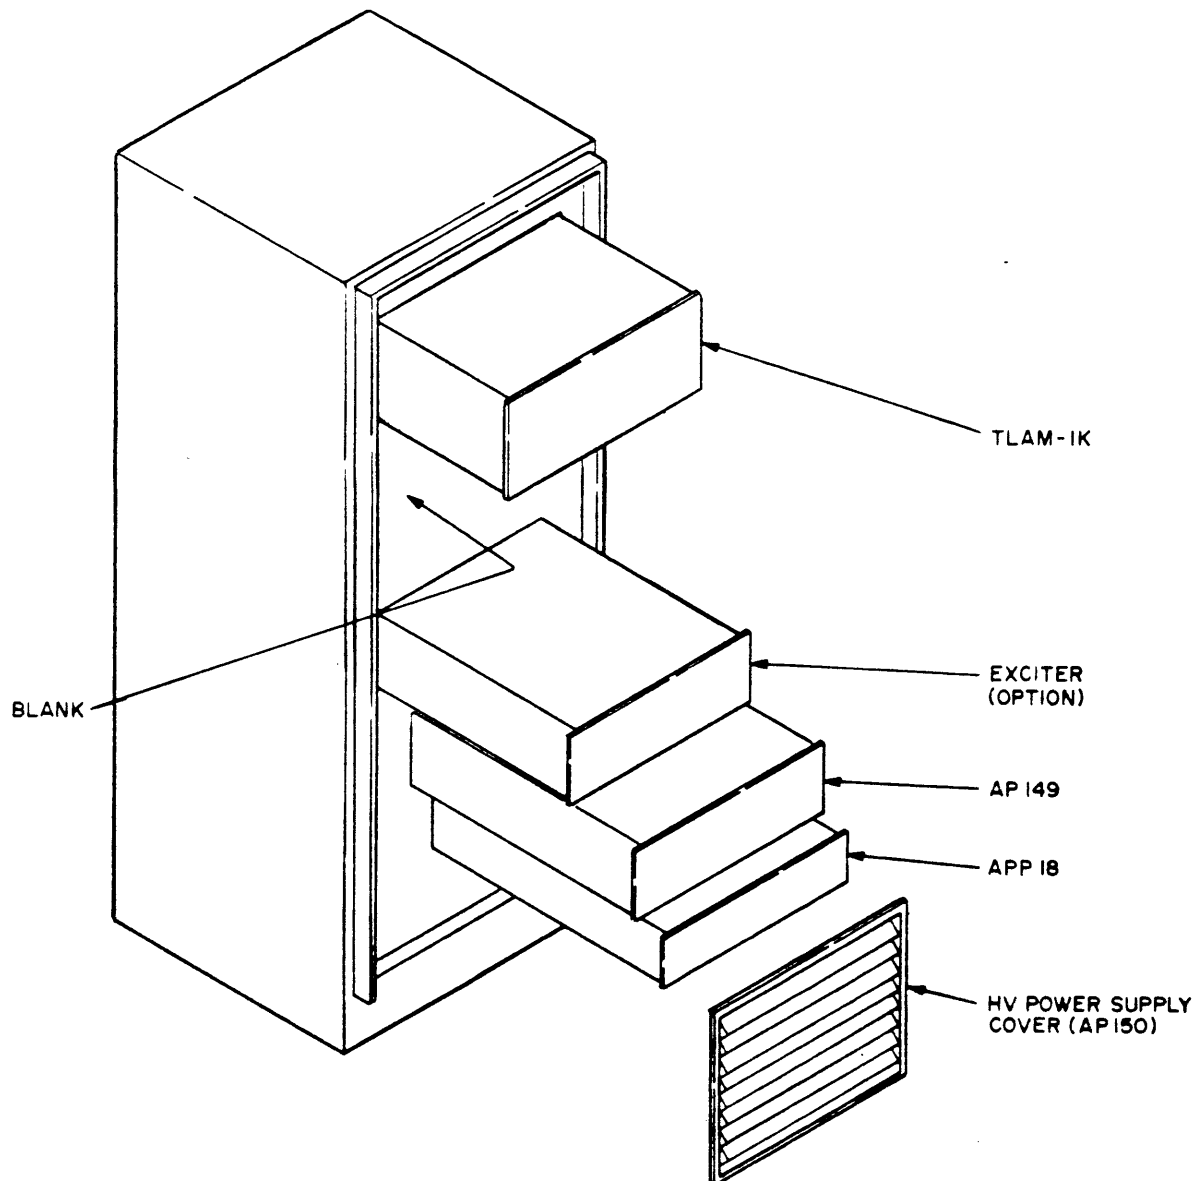
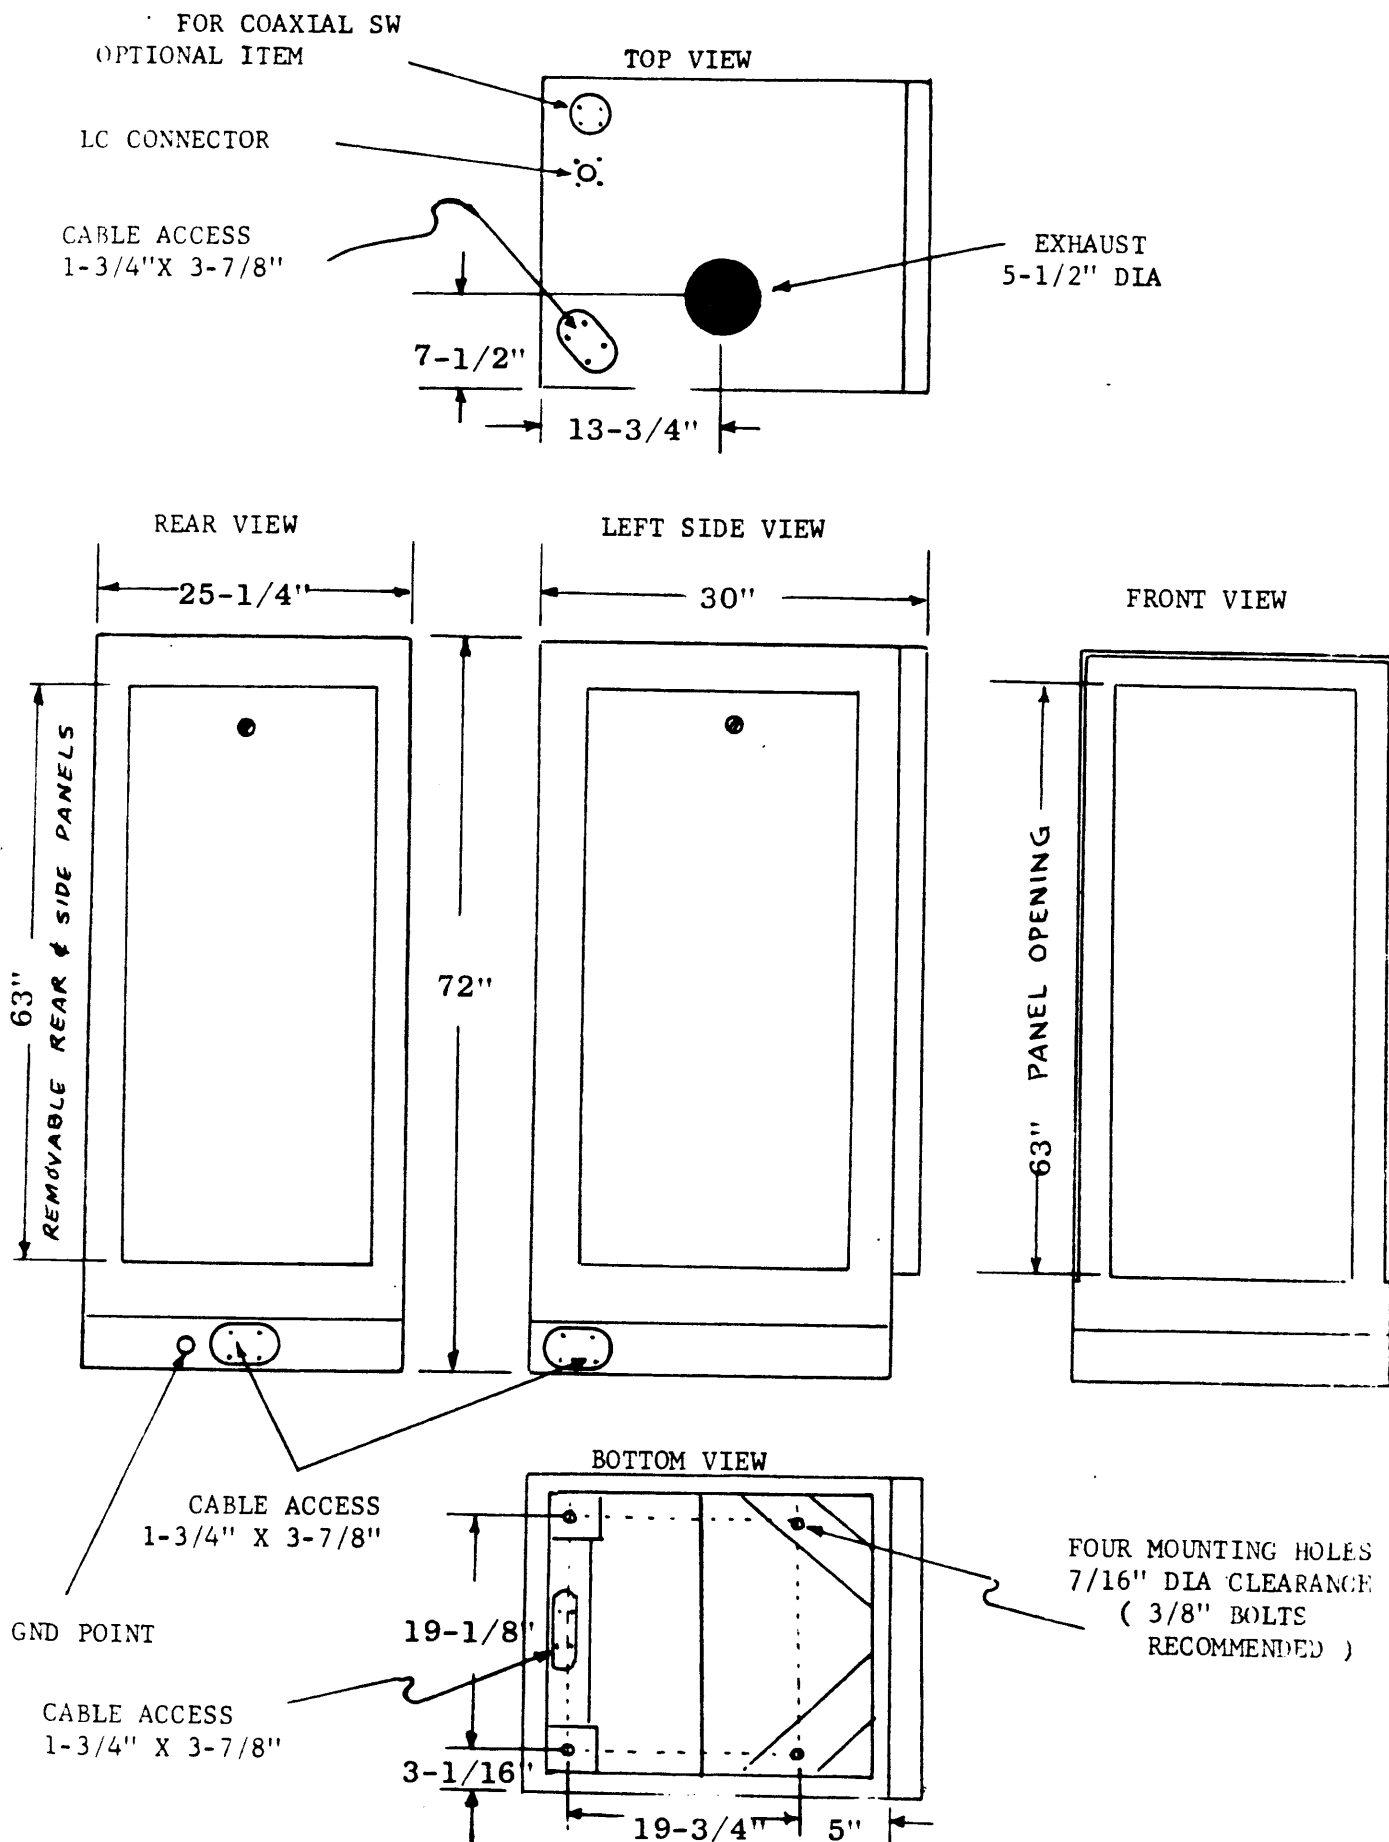

Figure 2-1. Typical HFTLM-1K Installation
Figure 2-3. Outline Dimensional Diagram
c. Remove all packing material from cabinet and position cabinet in accordance with pre-installation planning. (See figures 2-1, 2-2 and 2-3.) Figure 2-3 gives dimensions for cabinet base mounting.
(Refer to figure 2-1 for information regarding cabinet location of all modular units.)